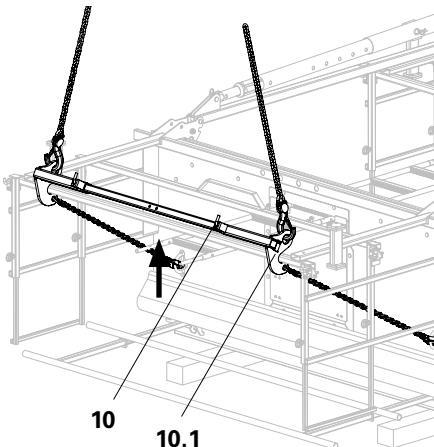

Fig. A11.03
With the Erection Device MXP, PERI MAXIMO and PERI TRIO system panel units with heights from $H = 5.40 \text{ m} - 9.00 \text{ m}$ can be erected. (Fig. A11.03)
1. Lift the Erection Device MXP (10) with the crane until the connecting lever (10.1) connects around the guardrail post. (Fig. A11.03)